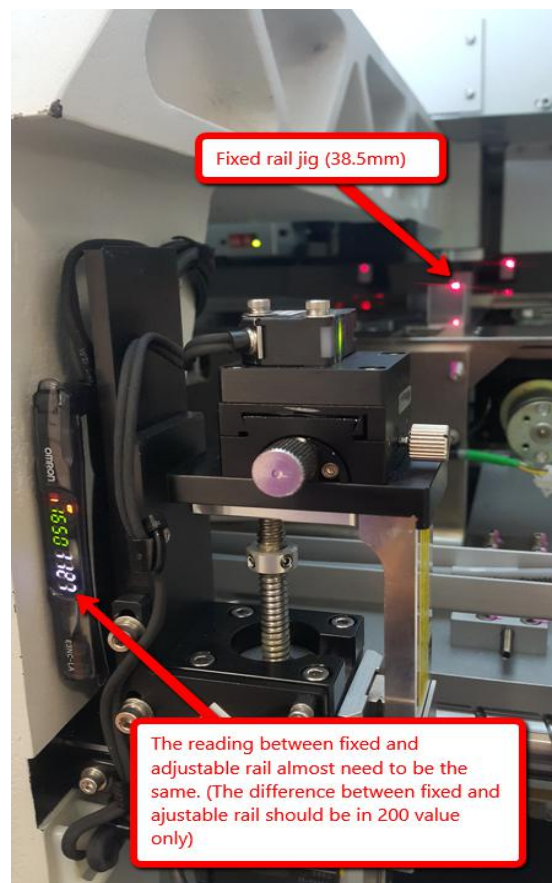
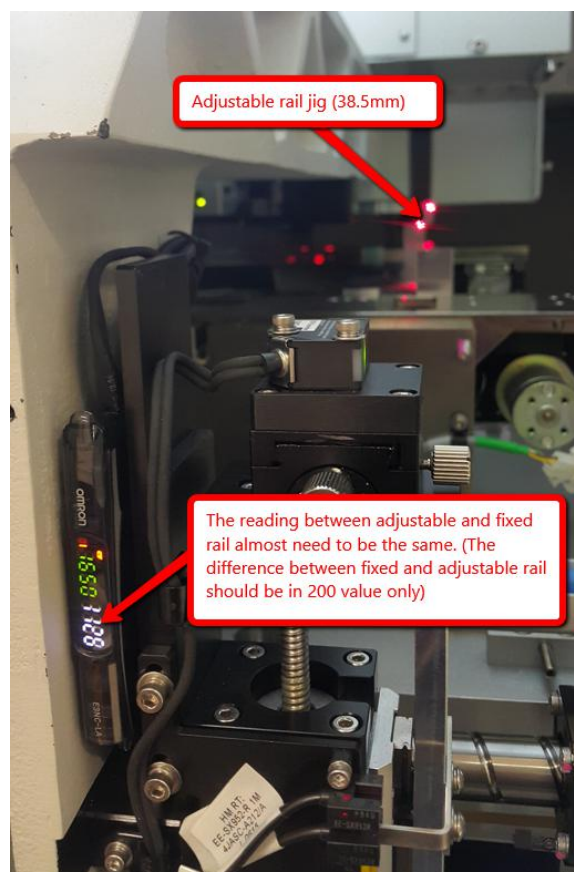

Figure 26 Fixed Rail
Figure 27 Adjustable Rail
- iii. Manually move the stage from fixed rail jig (38.5mm) and to adjustable rail jig (38.5mm) (Figure 26 and Figure 27)